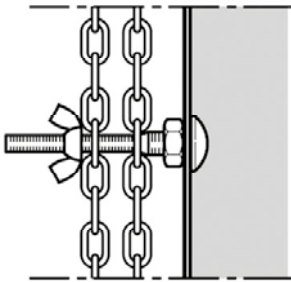

Figure 9
- In order to avoid catching the manual control chain when the door is moving, and to avoid impeding the movement of people and equipment, the lower part of the chain should be fixed (fig. 9) at a height of ~1.5 m.